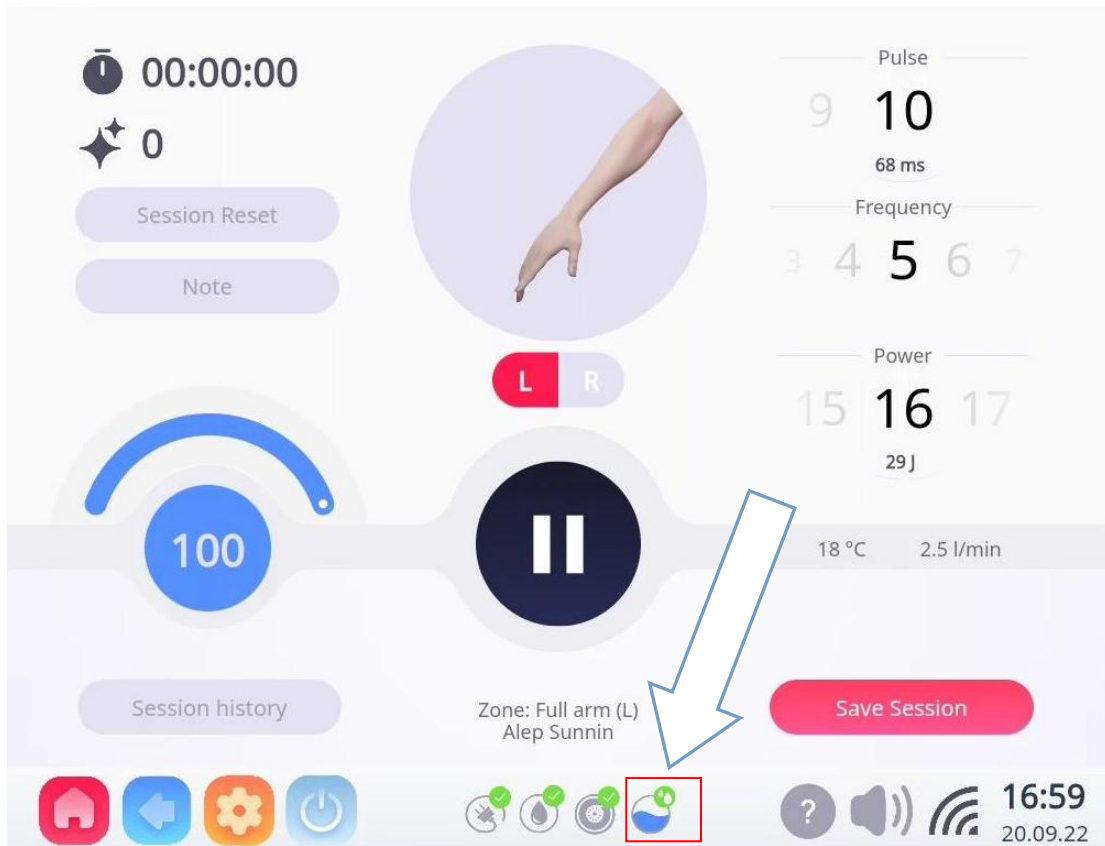

Figure 5.4-29
- Click “Water level” to turn on and off the monitoring of water level status, and the monitoring results are reflected in this position (see Figure 5.4-29). The factory default is on.